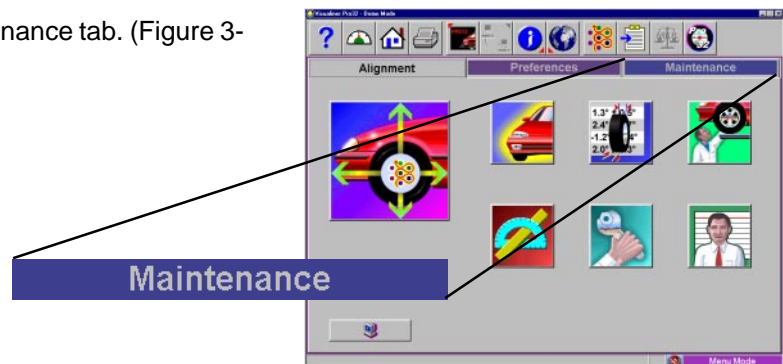

Figure 3-123
3. From the Main Menu click on the Maintenance tab. (Figure 3-123)